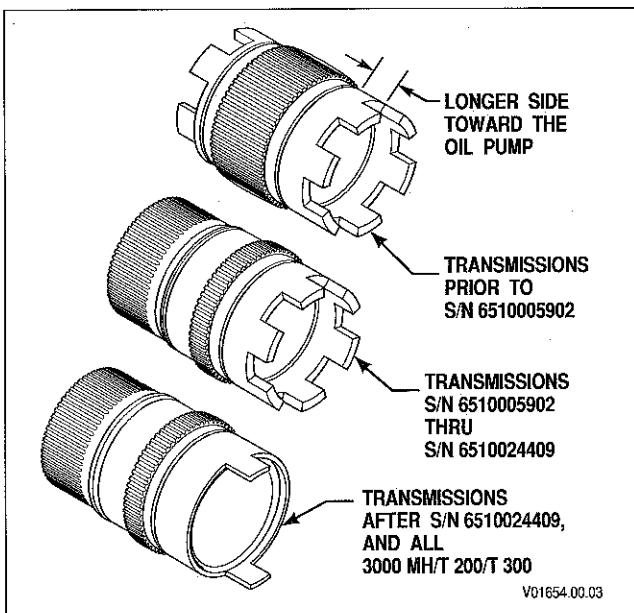

Figure 5–3. Oil Pump Drive Hubs
7. Measure gear-cavity depth in the pump housing (Figure 5–4a). Maximum allowable depth is 17.93 mm (0.706 inch).
8. Measure gear-cavity diameter in the pump housing (Figure 5–4b). Maximum ID permitted is 127.30 mm (5.012 inch).